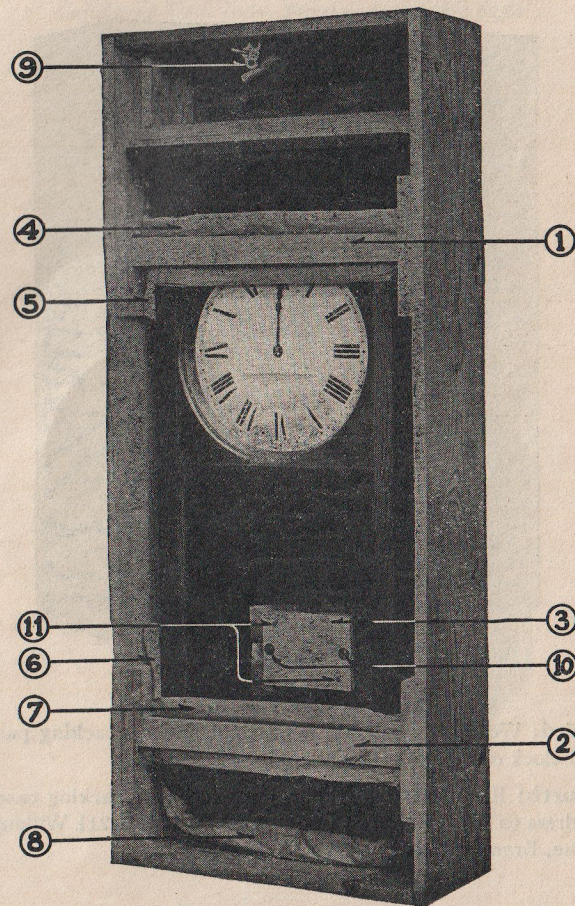

Fig. 1
Second: Remove the clock key (9), Fig. 1, and the small package containing the screws for hanging and fastening clock to the wall.
First: Be sure that pendulums are carefully blocked down to the back of the clock case, using the two wood bob blocks (3), Fig. 1, bolts and nuts (10), and wood screws (11). For method of bolting see (3), Fig. 1. Pendulums for No. 9 and No. 33, 14" dial, to be detached and packed separately as described in above note.
Second: Place clock in packing case, using the packing pads and strips as shown in Figs. 1, 2 and 3. If any loose or broken parts are to be returned, they should be wrapped in a separate package and placed in compartment at top of packing case, or in the space at side of clock case.